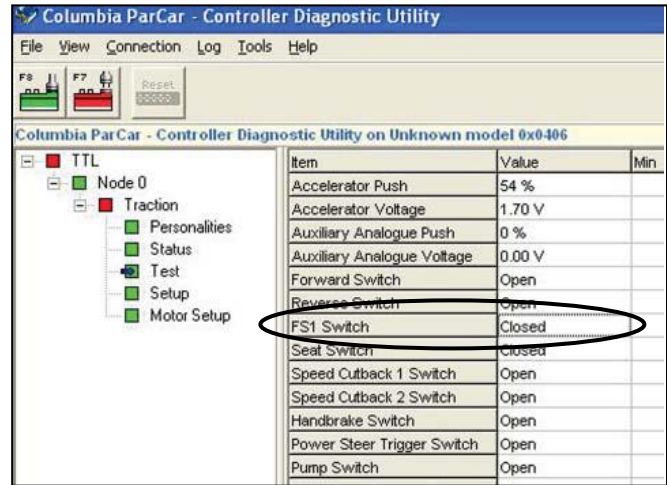

Figure 4-5
3. Check the FS1 Switch input on the same screen. With the accelerator at rest, the value for the FS1 Switch should read "open". When the accelerator pedal is pressed, the value should change to "closed" (Figure 4-5). If the value fails to close, check the FS1 wiring circuit and test the switch with a VOM. Check the wiring back to the controller (Pin 4).
4. Check the direction input to the controller. Observe the value of the "Forward Switch" item while turning the direction selection knob to "Forward" and to "Neutral". The switch should read "open" when the knob is in neutral and "closed" when in forward (Figure 4-5). Do the same in reverse by monitoring the "Reverse Switch" item and value. If the switch fails to close in either direction, check the switch with a VOM and the wiring back to the controller (Pin 2 for Forward and Pin 3 for Reverse).